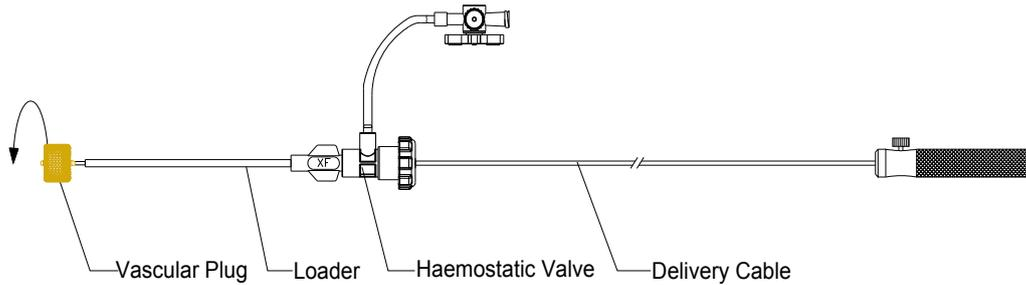
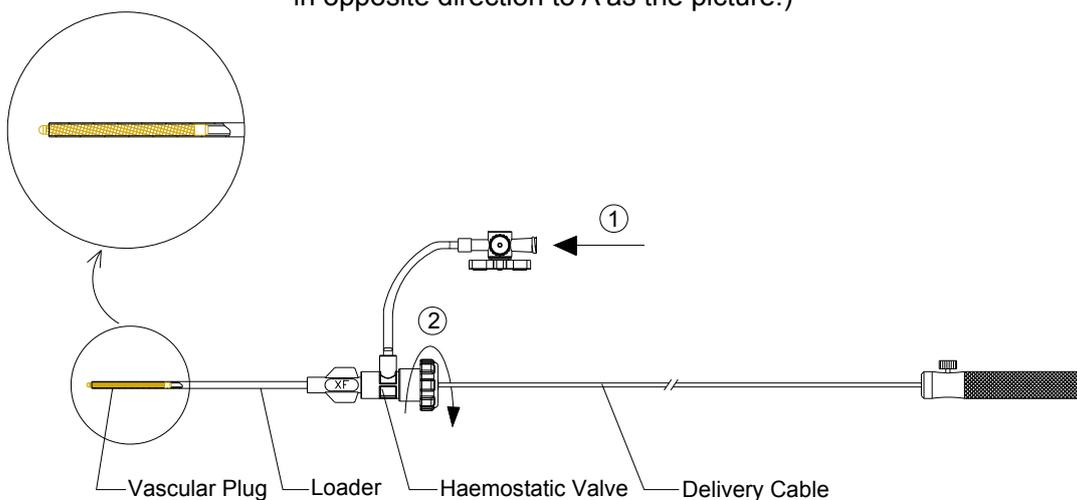
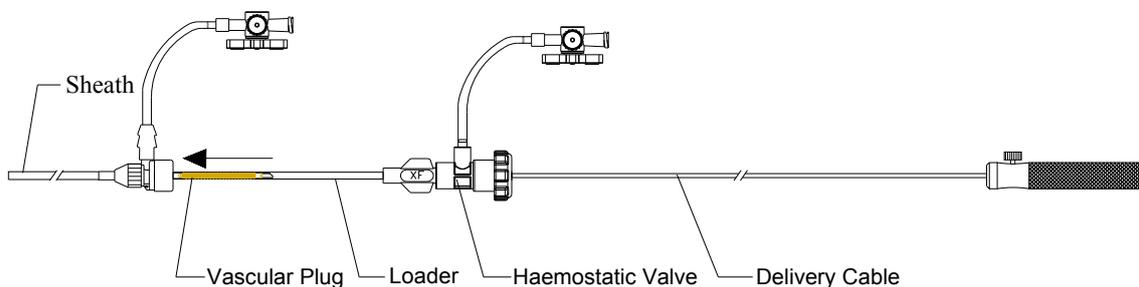

Figure 8 Connect the Delivery Cable with the plug
Figure 10 The plug is pulled into the Loader
Figure 12 Insert the Loader with plug and the Delivery Cable into the delivery sheath
- Connect the Delivery Cable with the Plug by micro-screw (As **Figure 8**). Immerse the Plug into heparinized saline and pull the Plug into the Loader (As **Figure 9** and **Figure 10**). Flush the Loader via the stopcock of Haemostatic Valve to remove air and screw tight the haemostatic valve. Then insert the Loader with the Plug and the Delivery Cable into the Sheath (As **Figure 12**) while keep flushing the Loader.
Note: When pull the Plug into the Loader, should retain the distal without screw is still outside, otherwise, it is necessary that pull the Plug out through the Haemostatic valve (As **Figure 11**), and repull it into the Loader as **Figure 8, Figure 9, Figure 10**.
Figure 11 If the distal without screw is pulled into the Loader, it is necessary that pull the Plug out through the Haemostatic valve in direction A and re-pull it into the Loader as **Figure 8**, **Figure 9**, **Figure 10**.